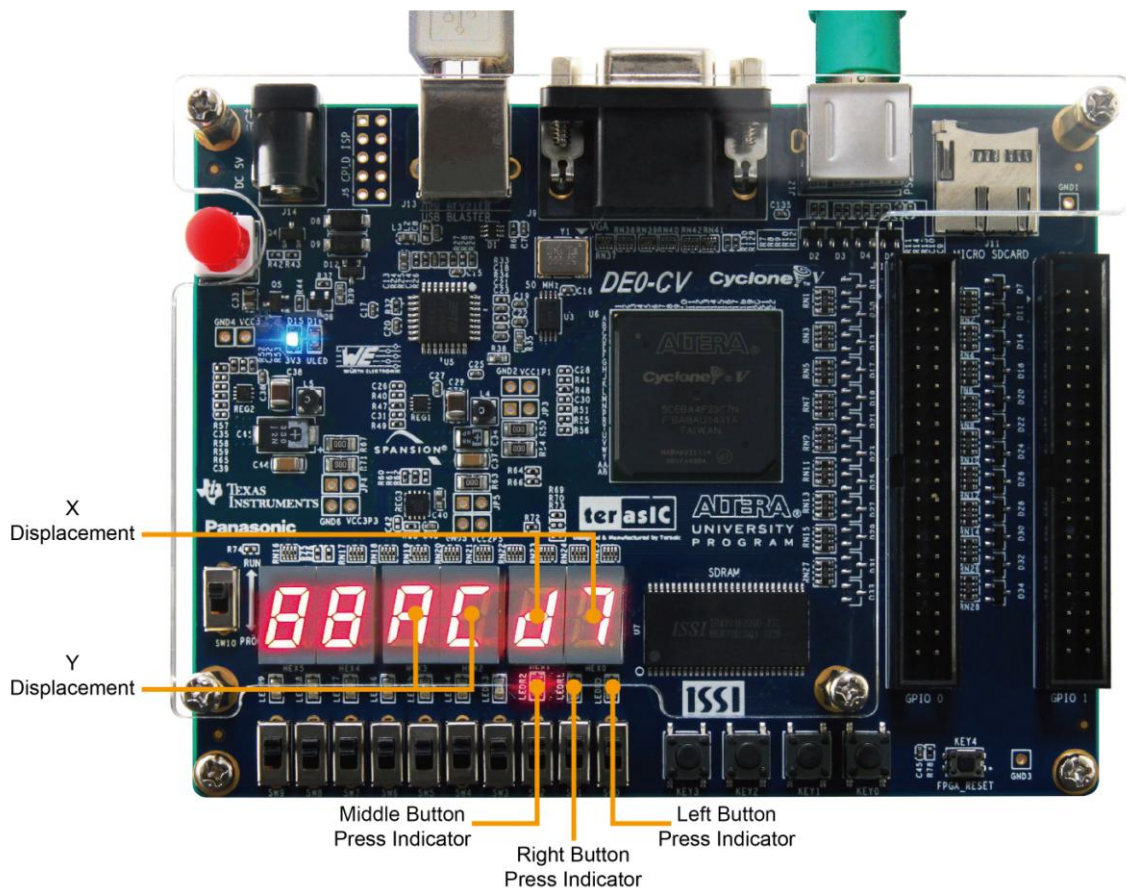

Figure 5-6 Description of 7-segment Display and LED Indicators
- The 7-segment display should change when the PS/2 mouse moves. The LEDR[2:0] will blink according to **Figure 5-6** and **Table 5-2** when the left-button, right-button, and/or middle-button is pressed.